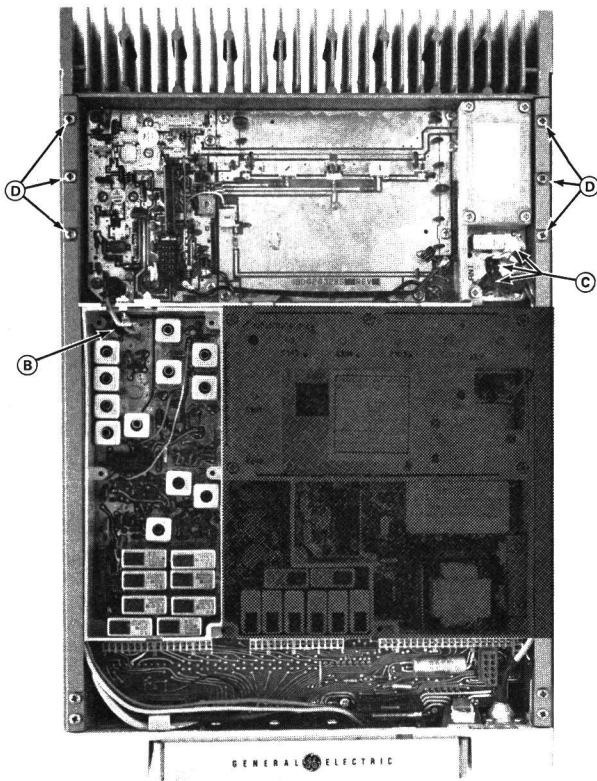

Figure 2 - Disassembly Procedure Top View
2. Remove the top cover, then loosen the two bottom cover retaining screws and remove the bottom cover (See Figure 2).
1. Unplug the exciter/PA cable (B). (Figure 2).
To remove the PA assembly: (See Figure 2).